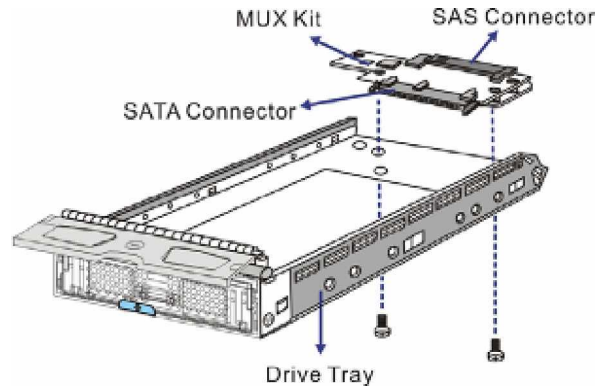

Figure 2-9: Installing an Optional MUX Kit
Step 2. Insert the two (2) available retention screws from the bottom of the drive tray. These screws will firmly secure the MUX kit to the drive tray and facilitate the installation of the appropriate drive. (See **Figure 2-9**)